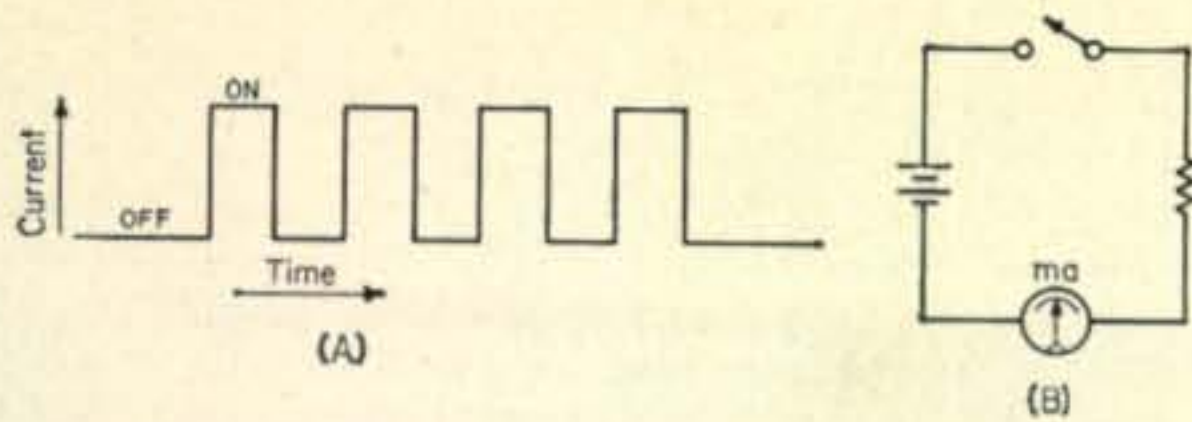

Fig. 25—The square wave in (A) is generated by opening and closing the switch in circuit (B).
the coils will not come up to anywhere near the required 50 to 60 ma during the 22 ms pulse following a 22 ms space when the coil circuit was open. The coil current should reach 90% of its required value in no more than 1 ms after the distributor contact closes. The current through the selector coils should be as near to a square wave as possible. Figure 25(A) shows a perfect square wave produced by opening and closing the switch shown in fig. 25(B), a resistive circuit.
Time and again, throughout this article, whenever the opportunity presented itself, attention has been focused upon the fact that the teletype signal is made from 22 ms pulses, forming a square wave, produced by interrupting a d.c. voltage. In a circuit containing mostly inductance this square wave could not be generated. By placing the inductances in series with large values of resistance and using higher values of voltage the result is almost that shown in fig. 25(A).